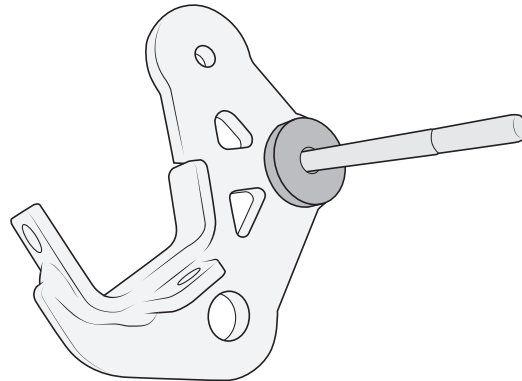

Figure 8
9. Prepare AEV tow loops by inserting a black M12x150mm bolt with washer through the bottom rear hole of the tow loop with a provided spacer (fig. 8).